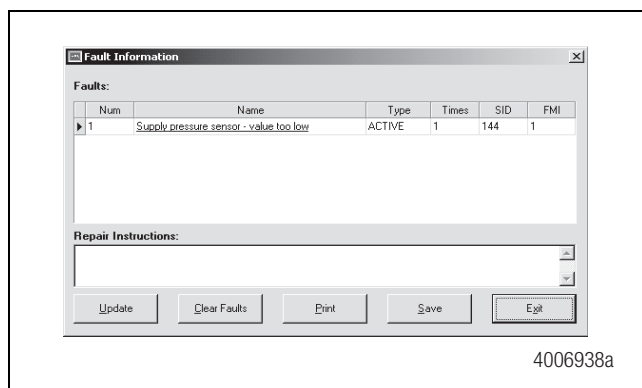

Figure 62
3. Select **Display Faults** from the pull-down menu. All active and stored faults are displayed. Figure 62.